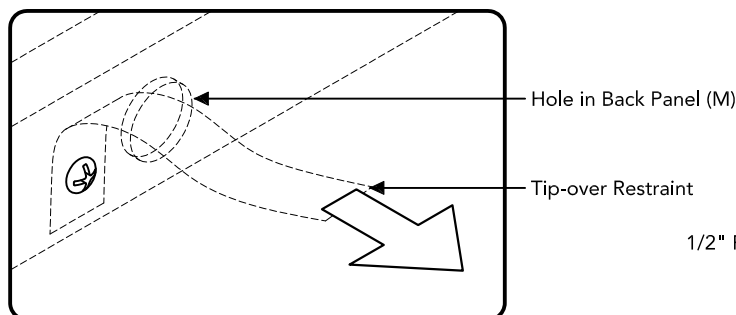

Figure 5
Move unit back into place and insert Tip-over Restraint into unit through hole in Back Panel (M). (See Figure 5)